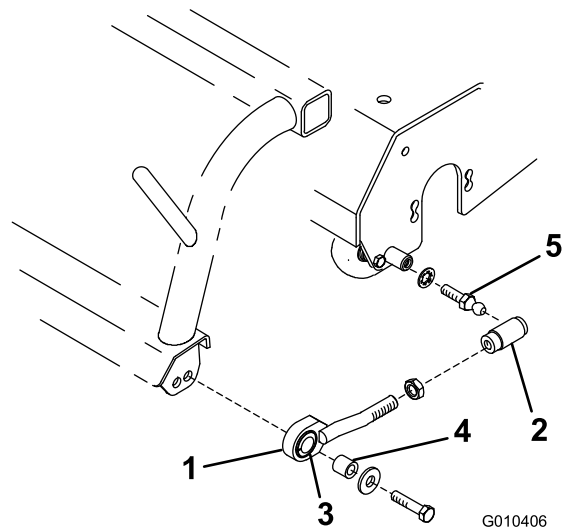
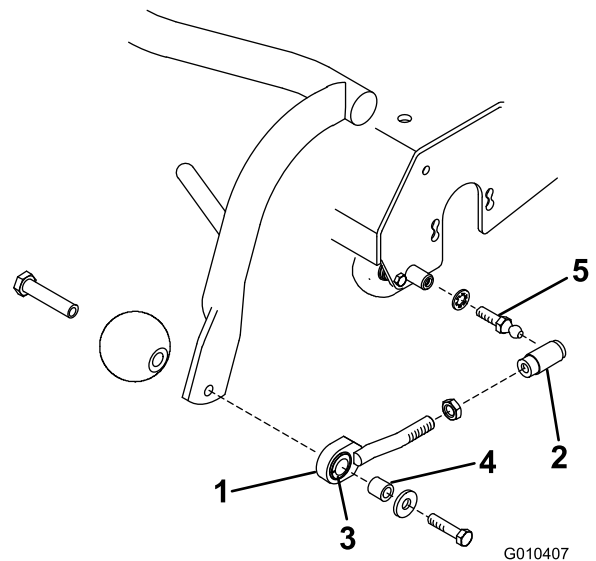

Figure 5
Figure 6
- B. Assemble a jam nut and ball joint receiver onto each pull link assembly as shown in Figure 5 and Figure 6.
- C. Mount a pull link assembly to each end of the carrier frame with a spacer, washer and screw (Figure 5 and Figure 6). Make sure that the nylon bushing is in the pull link.
- D. Install the ball stud and lock washer to each end of the tri-roller (Figure 5 and Figure 6).
- F. Slide the sleeve back on each ball joint receiver and hook them onto the ball studs (Figure 5 and Figure 6).